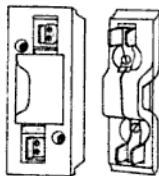

Fig. 5.22 Re-wirable fuses
Rewirable Fuse These fuses are also known as semi-enclosed fuses or kit-kat fuses and are used in domestic installation. In these types of fuses, the fuse wire is neither totally enclosed nor is it kept in free air. Figure 5.22 (a) shows a semi-enclosed fuse. In these types of
- (i) D-type cartridge fuse [Fig. 5.22 (b)], and